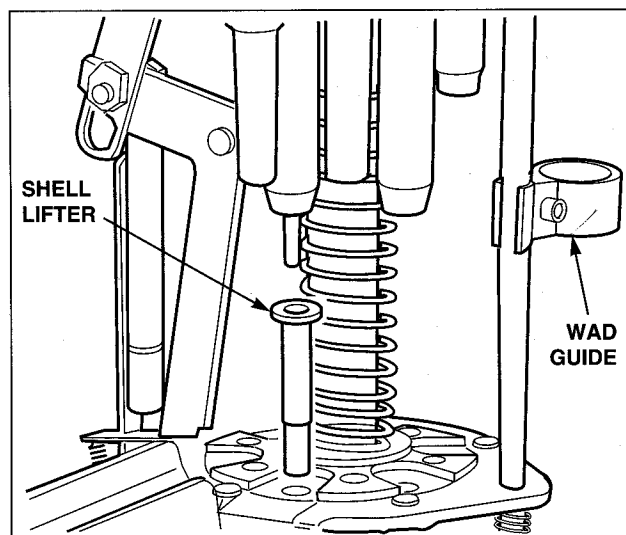

Figure 48
2. Remove the shell lifter from the collet by reaching under the machine and push it up with one hand while removing with the other, Figure 48.